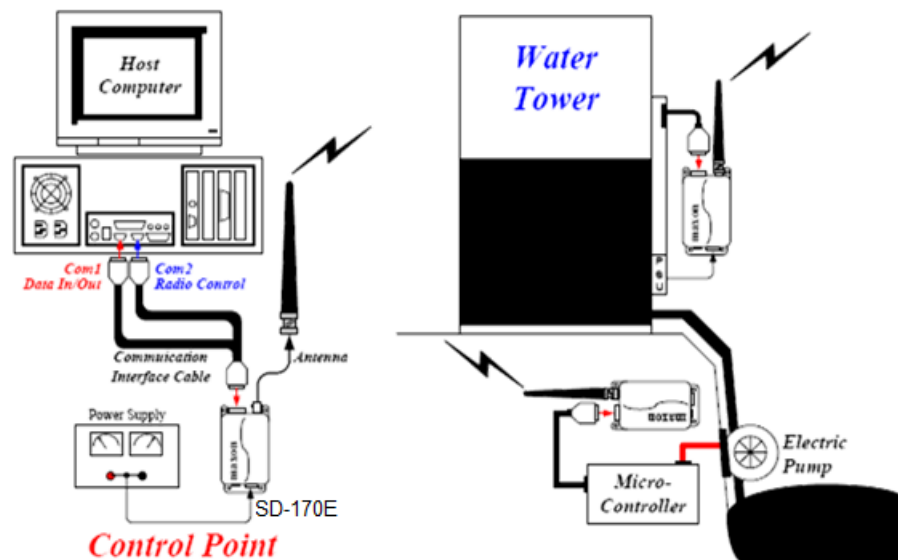

Figure 4.3. Irrigation equipment control Application
3. Multiple remote sites to control irrigation system (see Figure 4.3.)